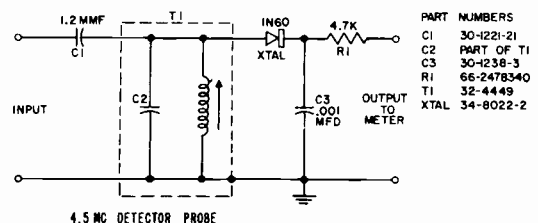

FIGURE 1-2 4.5MC DETECTOR PROBE CIRCUIT
2. Connect 4.5mc detector Fig. 1-2 to L3 (pin 7 of CRT).